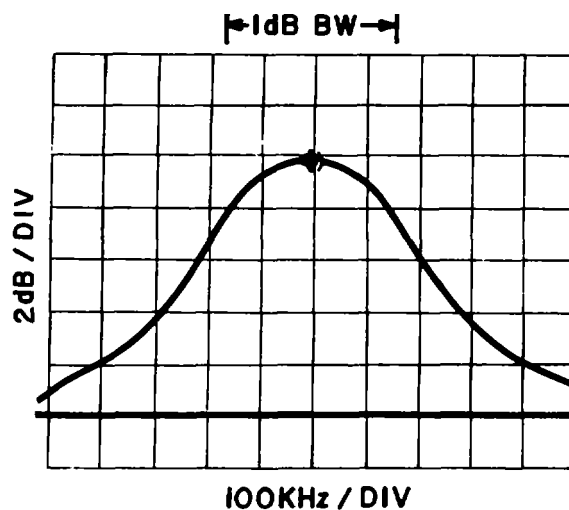

Figure 4-24. AM Demodulator Narrowband Alignment, Typical Response
9. Adjust C26 and C28 for the best response. The response should be centered at 21.4 MHz with a 1 dB bandwidth of between 200 and 400 kHz, as illustrated in **Figure 4-24**.